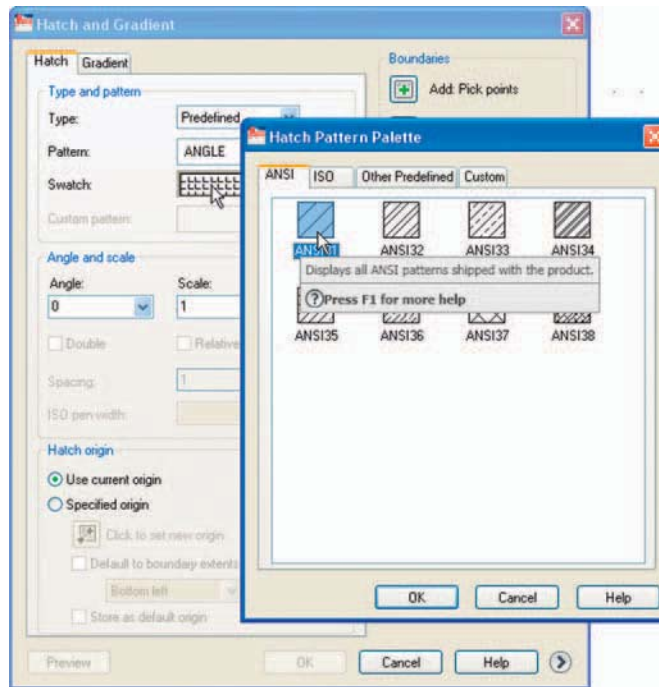

Fig. 7.12 The **Hatch and Gradient** dialog and the **ANSI Hatch Pattern** palette
1. Call the **Hatch** tool – either *left-click* on its tool icon in the **Home/Draw** panel (Fig. 7.11), *click* the tool in the **Draw** toolbar, or *enter h* at the command line. (*Note* – do not *enter hatch* as this gives a different result). The **Hatch and Gradient** dialog (Fig. 7.12) appears.